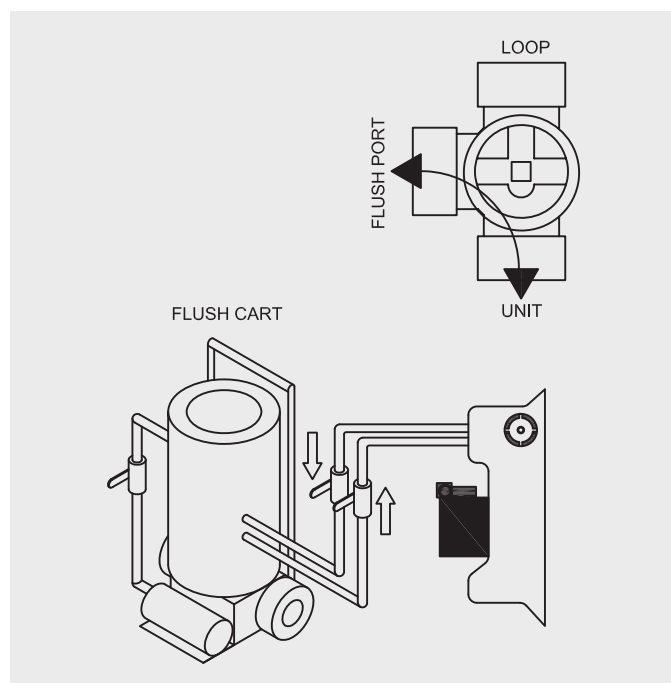

Fig. 112 Flush cart step 2
2. Once full, the flushing process can begin (Fig. 112). Do not allow the water level in the reservoir to drop below the pump inlet line to avoid air being pumped back out to the ground loop. Once the water level remains above the water outlet in the reservoir leave the pump running continuously. Catch or filter debris returning from the loop to the reservoir. Once all debris is removed turn the 3-way valve to the flush port/unit position. Make sure the water level is maintained while filling the Bosch geothermal unit. Flush the Bosch geothermal unit until all debris is removed and then return the 3-way valve to the flush port/loop position.